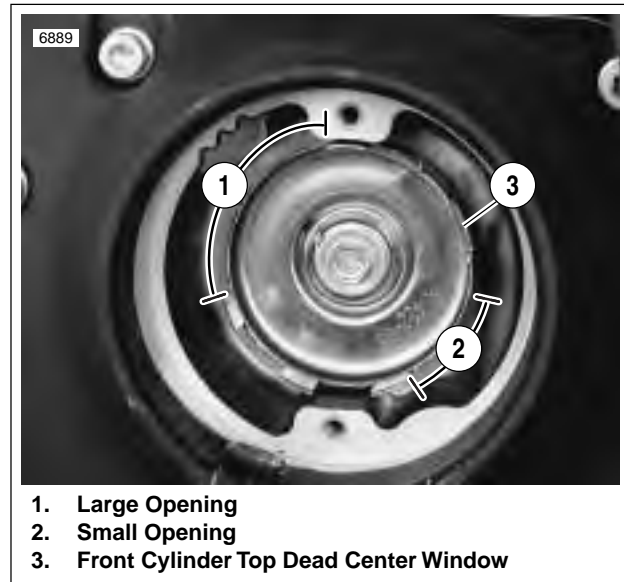

Figure 1-49. Trigger Cup Openings (Cam Position Sensor Removed For Illustration)
6. See Figure 1-49. Set static timing. This will align openings (1, 2) on trigger cup with cam position sensor.